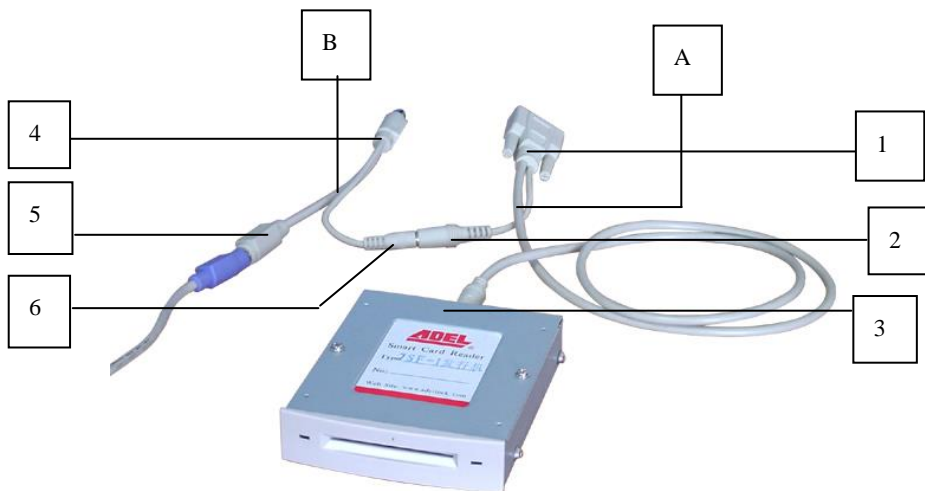

Figure1-1
- c) Connect the encoder with line “3” of line “A”, connect line “1” of line “A” with the 9-pin COM port of the computer. (Refer to Figure 1-1)